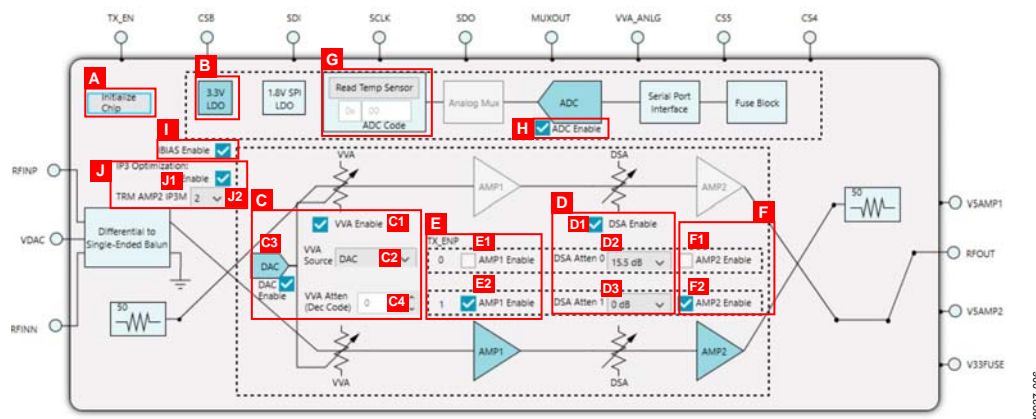

Figure 6. ADL6317 Chip Block Diagram
2. Click **Initialize Chip** (Label A, see Figure 6).
3. Click and adjust the blocks in **Label B to Label H**, as shown in Figure 6, if necessary.
Table 2. Main Screen Functionality (see Figure 6)